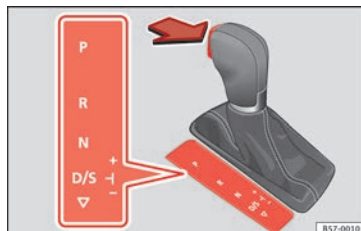

Fig. 178 Selector lever lock.
- Press the brake pedal *and*, at the same time, hold the lock button in the direction of the arrow »» Fig. 178.